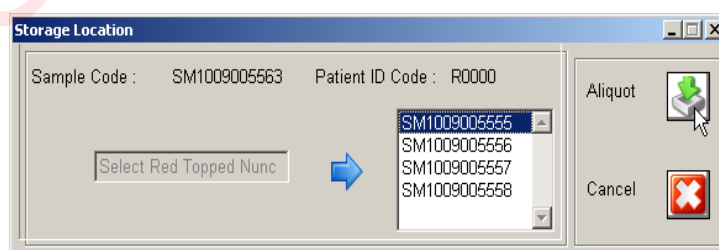

Figure 15 - 'Storage location' screen
7. The '**Storage Location**' screen (Figure 15) will appear showing the cryovial codes, select the cryovial and click on the '**Aliquot**' icon .